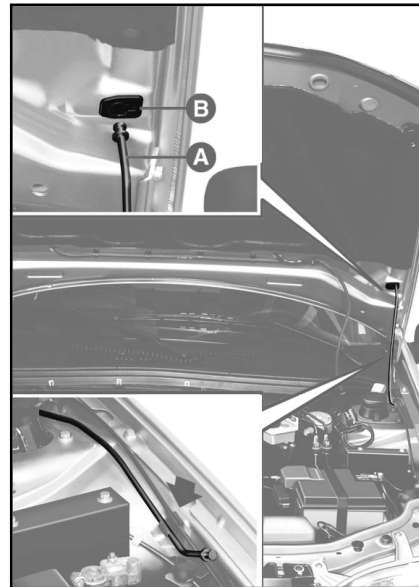

fig. 65
3) Lift the bonnet and release the support rod **A**-fig. 65 from its clip.
1) Hold the bonnet up with one hand and with the other remove the rod **A**-fig. 65 from the recess **B** and replace it in its clip.